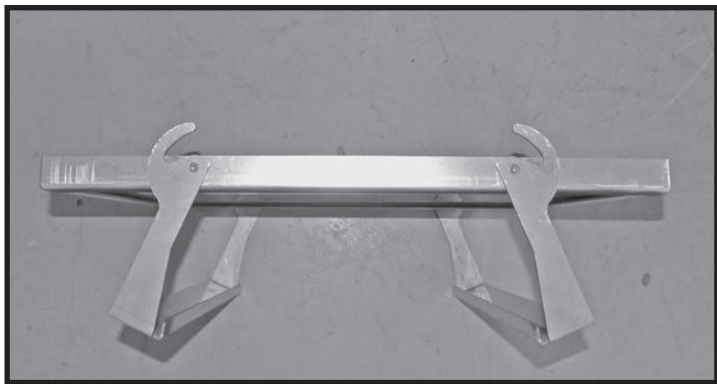
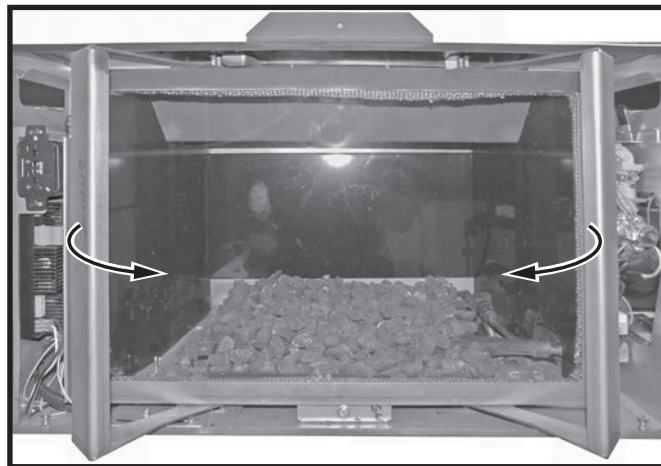

Figure 18: Glass door and hooks.
Figure 19: Unlocking the glass door.
2. There are two handles located on the fireplace door (Figure 18) which must be pulled inward toward the center of the fireplace to unlock the door (Figure 19). This may take some effort because the door completes a tight seal around the firebox.